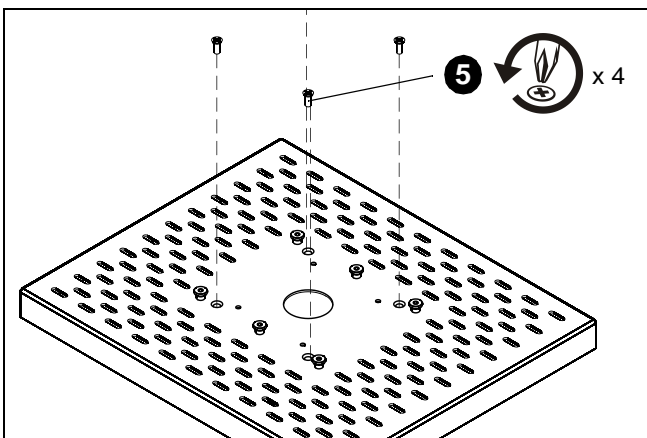

Figure 2
5. Remove and keep four Phillips screws from top of RPMA1. (See Figure 2)